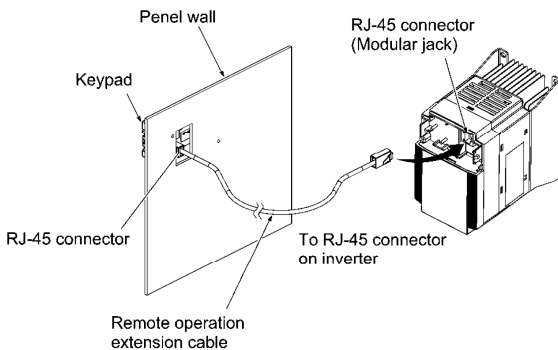

Figure 2.28 Connecting a Keypad and an Inverter's Standard RS-485 port
- ⑤ Connect an off-the-shelf straight LAN cable to RJ-45 connectors (Modular jacks) on the keypad and inverter (standard RS-485 port.) (Refer to Figure 2.28)